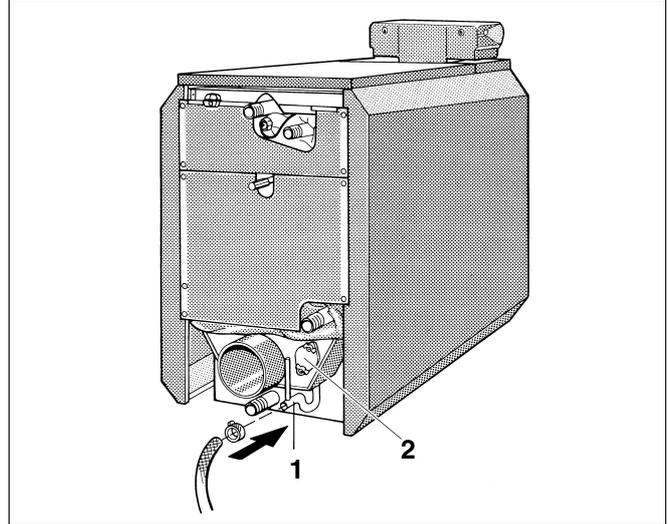

Fig. 27 Fit the drain hose
- Connect the drain hose with a hose clip to the condensate drain (siphon, Fig. 27, **item 1**).
The condensate outlet must not be blocked during cleaning (see Fig. 27, page 24).
- Checking and possibly cleaning the flue gas collector and the condensate outlet through the cleaning aperture Fig. 27, page 24.
6	Unscrew the neutralisation drain hose (condensate outlet) (Fig. 27, page 24)
9	Flush the condensate outlet (siphon) (Fig. 27, page 24)